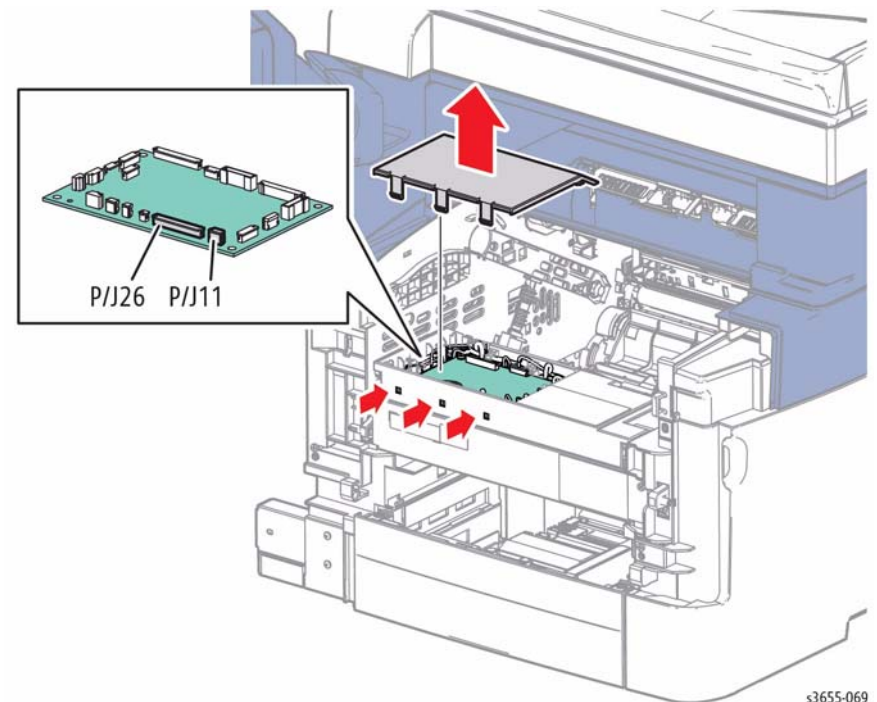

Figure 1 Disconnect the MCU Board
4. Refer to Figure 1 to locate and disconnect all MCU Board connections except PJ11,18 and 26.